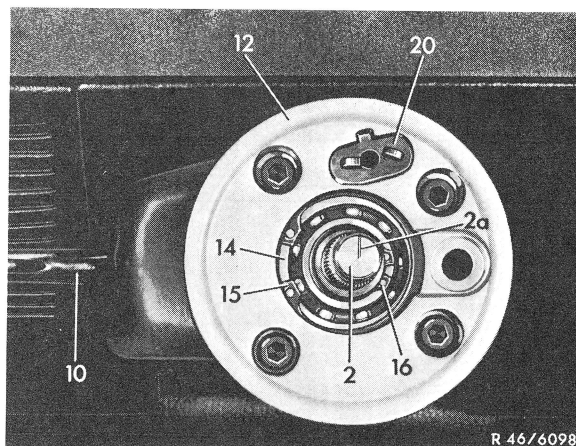

Fig. 5
3 Turn steering spindle (2) in such a manner that the marking line (2a) is pointing accurately upward (section A, Fig. 5).